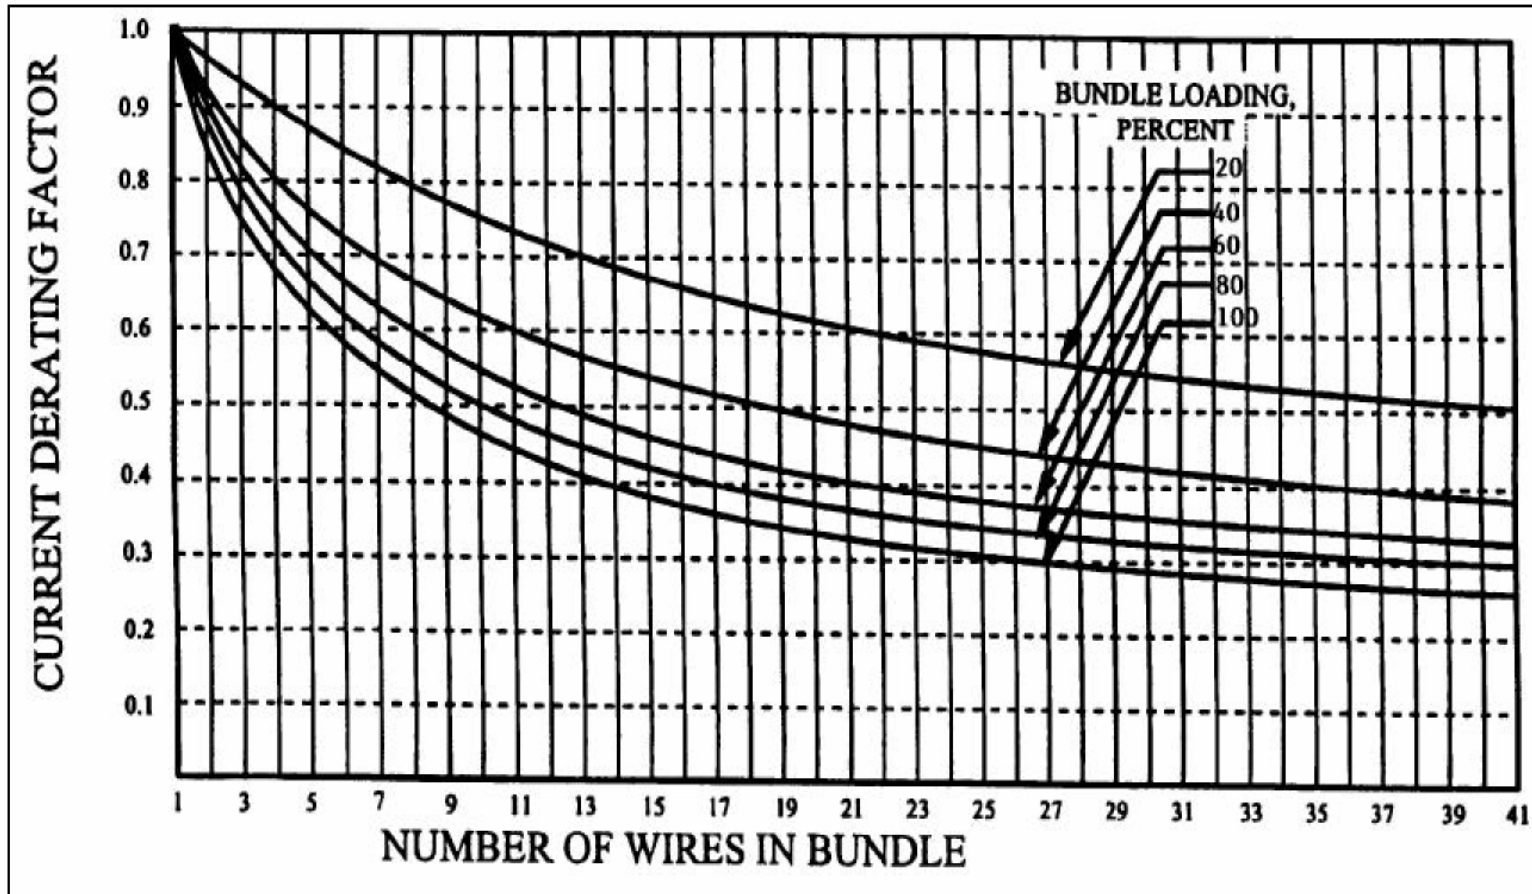

FIGURE 11-5. Bundle derating curves.
11-67. METHODS FOR DETERMINING CURRENT CARRYING CAPACITY OF WIRES. This paragraph contains methods for determining the current carrying capacity of electrical wire, both as a single wire in free air and when bundled into a harness. It presents derating factors for altitude correction and examples showing how to use the graphical and tabular data provided for this purpose. In some instances, the wire may be capable of carrying more current than is recommended for the contacts of the related connector. In this instance, it is the contact rating that dictates the maximum current to be carried by a wire. Wires of larger gauge may need to be used to fit within the crimp range of connector contacts that are adequately rated for the current being carried. Figure 11-5 gives a family of curves whereby the bundle derating factor may be obtained.
(10) Use figure 11-5, find the derate factor for 8 wires in a bundle at 60 percent. First find the number of wires in the bundle (8) at bottom of graph and intersect with the 60 percent curve meet. Read derating factor, (left side of graph) which is 0.6. Multiply